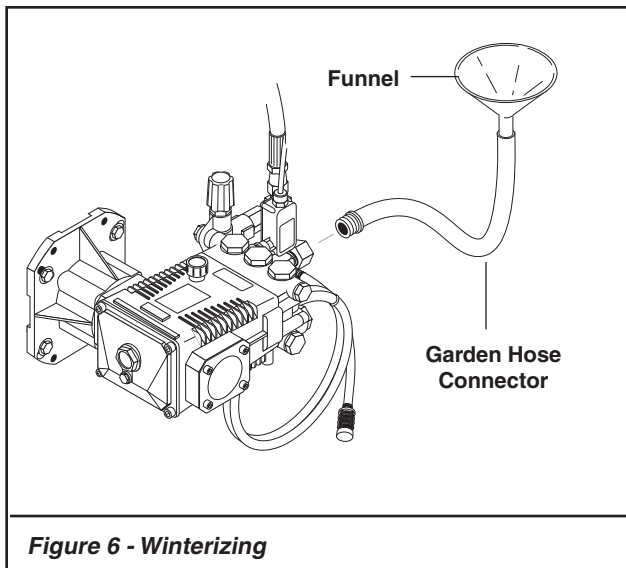

Figure 6 - Winterizing
3. Start the detergent suction by rotating the water adjustment knob of the detergent injector valve. Refer to **Figure 6**. Turning the knob counterclockwise will pull detergent into the system. The flow may be observed through the clear detergent line. Secure the knob position with the knurled nut.
10. Turn the side detergent control knob clockwise (CW) for detergent decrease. Wait for detergent to clear. Always rinse with cold water after using detergent. Rinse from the top to the bottom to prevent detergent from dripping onto a rinsed area. For the best results, contact your Hotsy dealer to help you select the best detergent for your application.
- Attach a short length of hose (approximately 3 feet long) to the garden hose connector located on the pump. Install a funnel in the other end of the hose as shown in **Figure 6**.